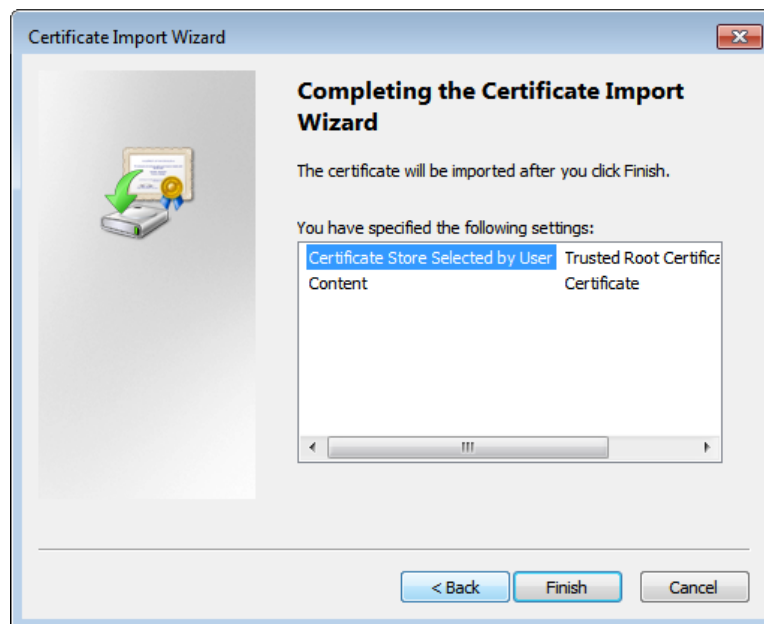

Figure 59: Certificate Import Wizard Final Dialog Box
10. A dialog such as Figure 59 appears. Click Finish.